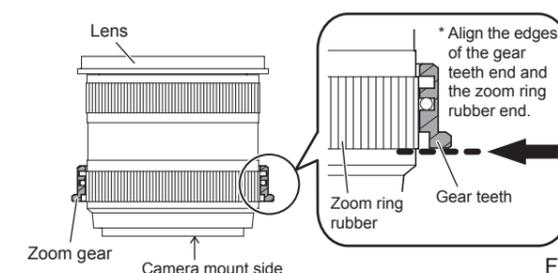

Fig.6
- Slide the gear forward until the gear teeth end is aligned with the zoom ring rubber end on the lens as shown in Fig.6.